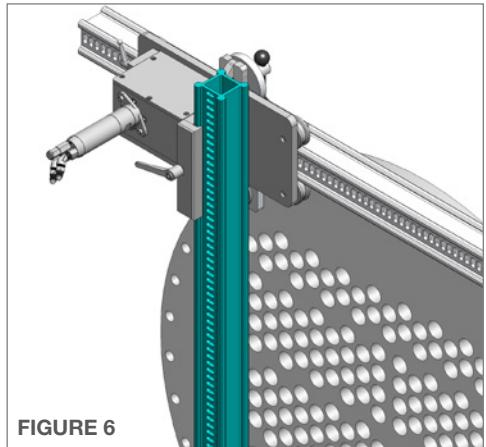

FIGURE 6
6. Loosen the **Large Adjustable Handle** for the Vertical Rail Clamp. Align the Idler Carriage with the vertical rail clamp on the horizontal carriage. Install the **Vertical Rail** with **(slots facing out)** down through the horizontal carriage clamp and between the rollers on the idler carriage. Adjust the position of the vertical rail as required and secure the clamp on the horizontal carriage by tightening the large adjustable handle. (**Figure 6**)